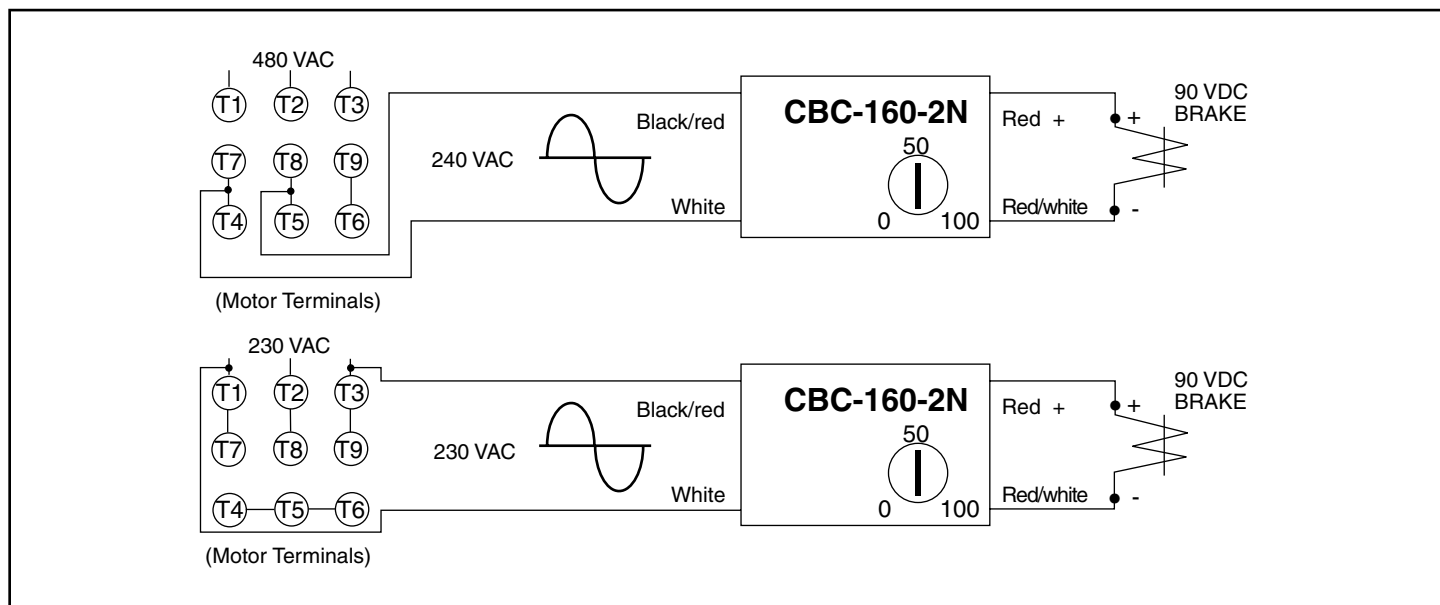

Figure 4
- If wiring to a motor for operation with an electrically released brake, refer to (Figures 4 and 5) for correct wiring for either 230/480VAC motor connections.